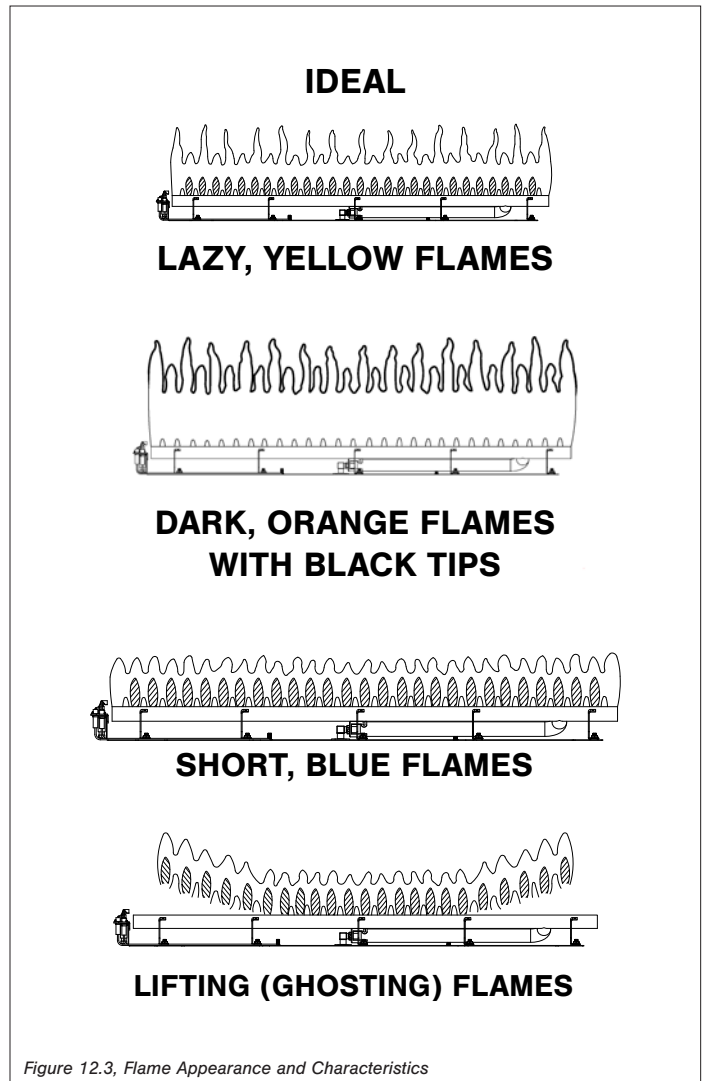

Figure 12.3, Flame Appearance and Characteristics
- Visually check pilot light and burner flame pattern when in operation. Flames should be steady, not lifting or floating. Refer to section Figure 12.3, Flame Appearance and Characteristics on page 43.